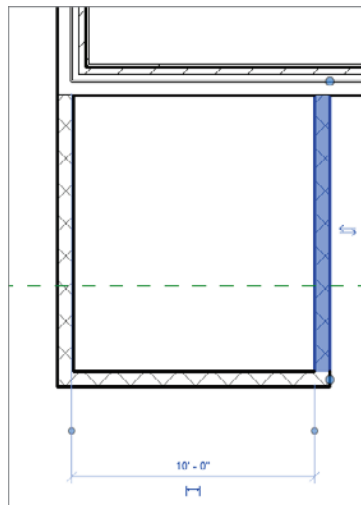

FIGURE 2.24 The selected wall is the wall that will move when you type the new dimension.
5. The actual increment in the dimension is blue. Select the blue dimension, type **10 (3000mm)**, and press Enter. The wall that was selected moves to accommodate the new increment, as shown in Figure 2.24.